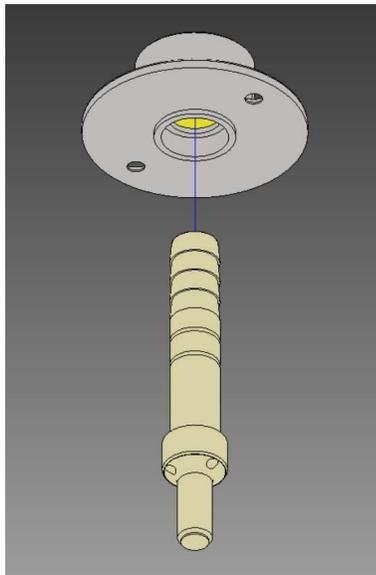

FIGURE F. 12. – STEM INSTALLATION
2. Install the wetted stem (see Figure F.12.)